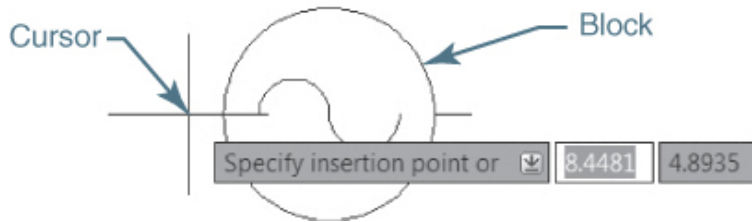

Figure 16-16
- 5 Click to insert the block anywhere in the drawing as shown in Figure 16-16.